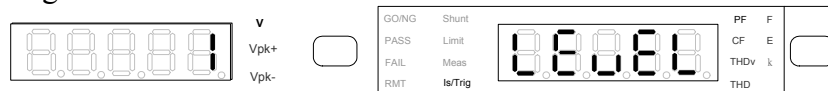

Figure 4-34 Setting LEVEL and Current
2. In the special measurement display a blinking pattern will appear. Use \uparrow , \downarrow to select Level and press **Enter/Trig** to save the setting and go to trigger Level (ampere) selection display as Figure 4-34 shows.